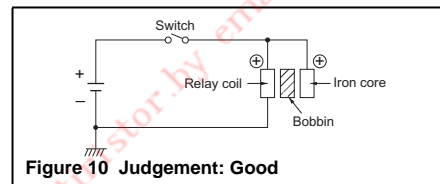

Figure 10 Judgement: Good
- When a grounding is not required, connect the ground terminal to the \oplus side of the coil. (Refer to Figure 10) (NF and NR with ground terminal)